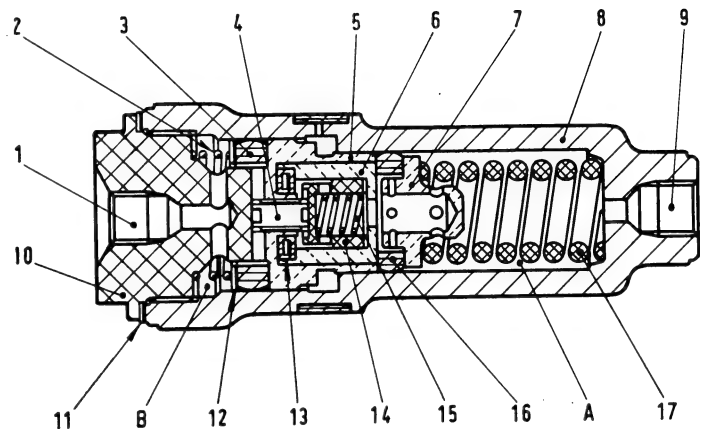

Fig. 183. - Longitudinal section view of pressure regulating cylinder.
This device (fig. 183) consists mainly of a body in which a dual diameter piston slides. The smaller diameter end of body forms a high-pressure chamber (A), while the larger diameter end forms a low-pressure chamber (B).